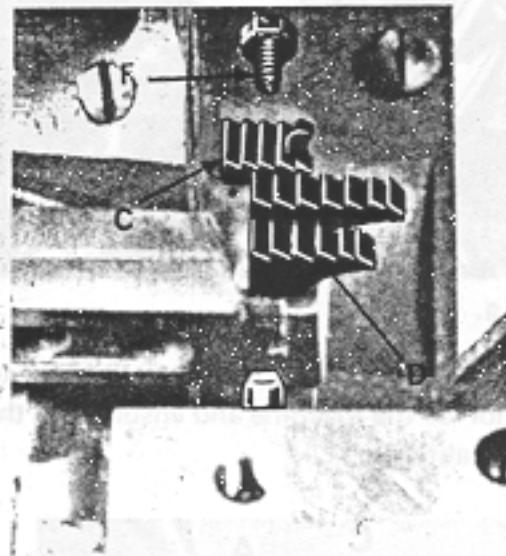

fig.12
## 8. Fitting and adjusting feed dogs (figs. 12 and 13).
- Fit the rear feed dogs C and D (fig. 12) and match the feed dog slides.